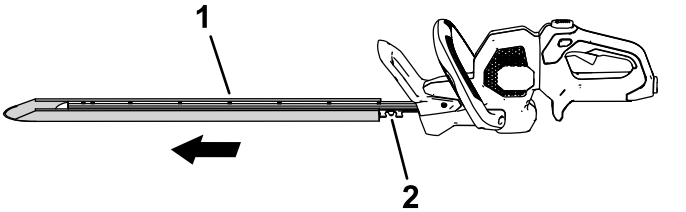

Figure 4
1. Remove the protective cover from the blades (Figure 4).